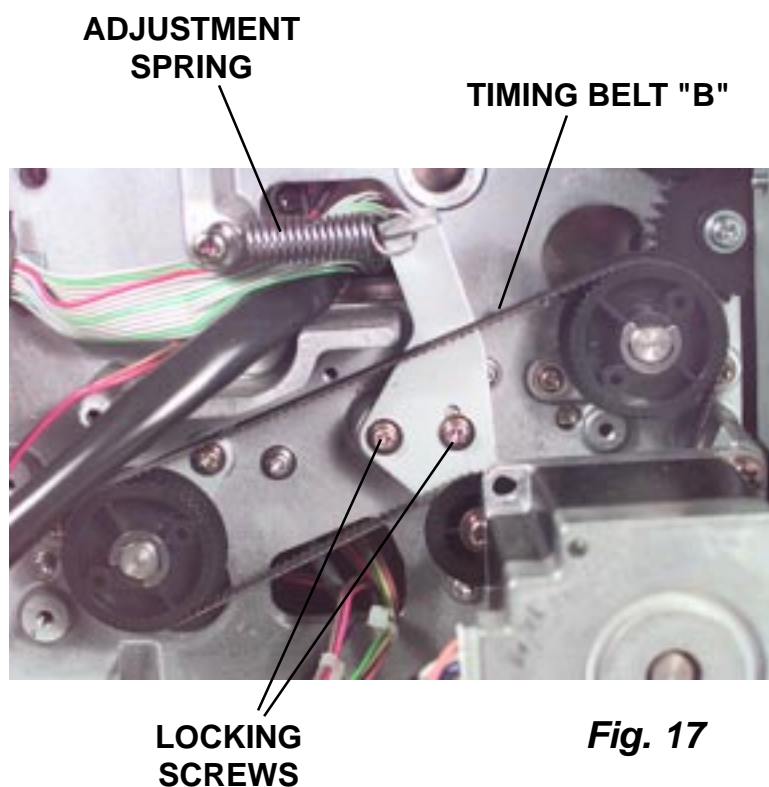

Fig. 17
2.	Loosen the locking screws and belts will self-adjust. Tighten, but do not overtighten the screws. Fig. 17